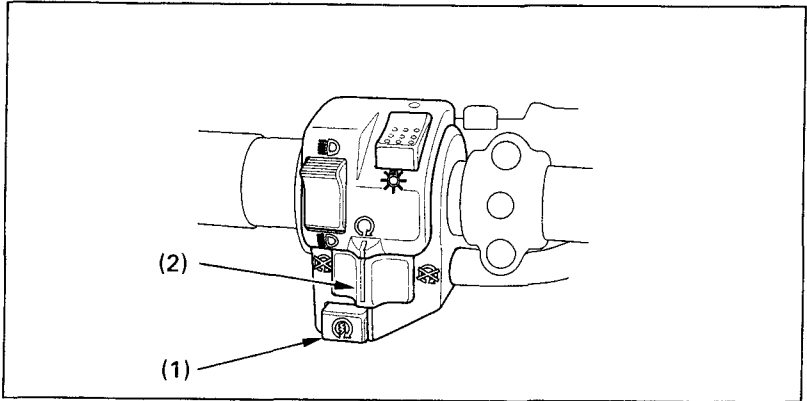

Fig. 2-8 (1) Starter button
The starter button (Fig. 2-8) is below the engine stop switch. To start the engine, press the starter button (1), with the transmission in neutral, the ignition switch I (ON) and the engine stop switch (2) at ○ (RUN).